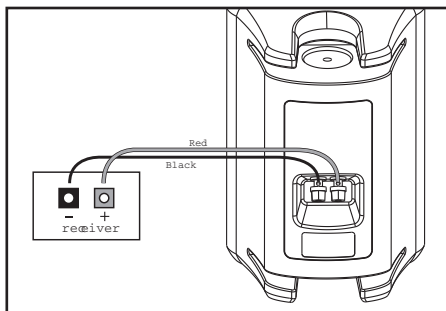

FIGURE 14
- 14) Follow the hookup directions included with your receiver. Strip 1/2 inch of insulation from each of the two conductors of the wire to expose the bare metal and twist each of the conductors into a single unfrayed strand (so you have two unfrayed strands). Note that one of the terminals on the rear of each speaker is red (+) and the other is black (-). Make certain that you connect the wire from the red terminal of your amplifier or receiver to the red terminal on your speaker [figure 14]. Most wire has some indicator (such as color-coding, ribbing or writing) on one of the two conductors to help you maintain consistency.